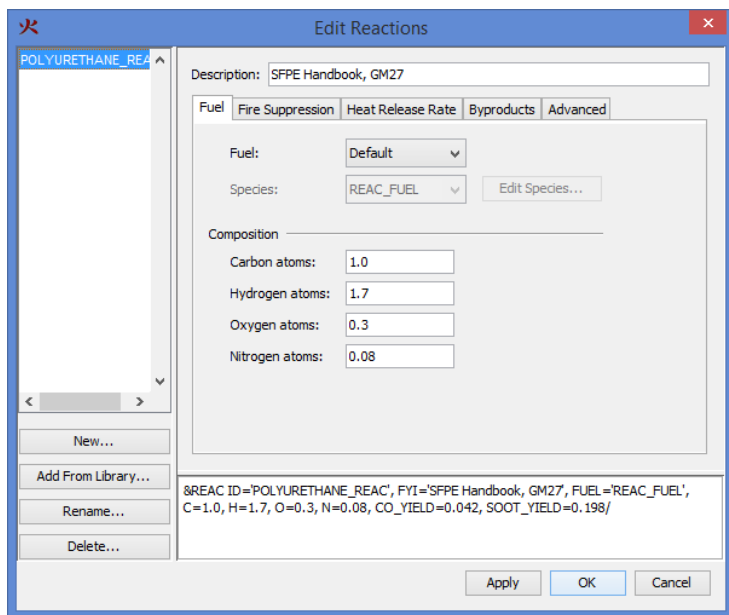

Figure 12.2. Fuel panel of the Edit Reactions dialog
2. On the **Fuel** tab, you may enter either the number of atoms in the reaction equation, or specify the reacting species. By default, PyroSim adds a custom species called REAC_FUEL to serve as the default fuel **Species**. If the species is not one defined by FDS, then the fuel composition must be defined as well. Note that not all of the implicitly defined species are reactive. The input for a polyurethane reaction described in the SFPE Handbook, is shown in Figure 12.2.